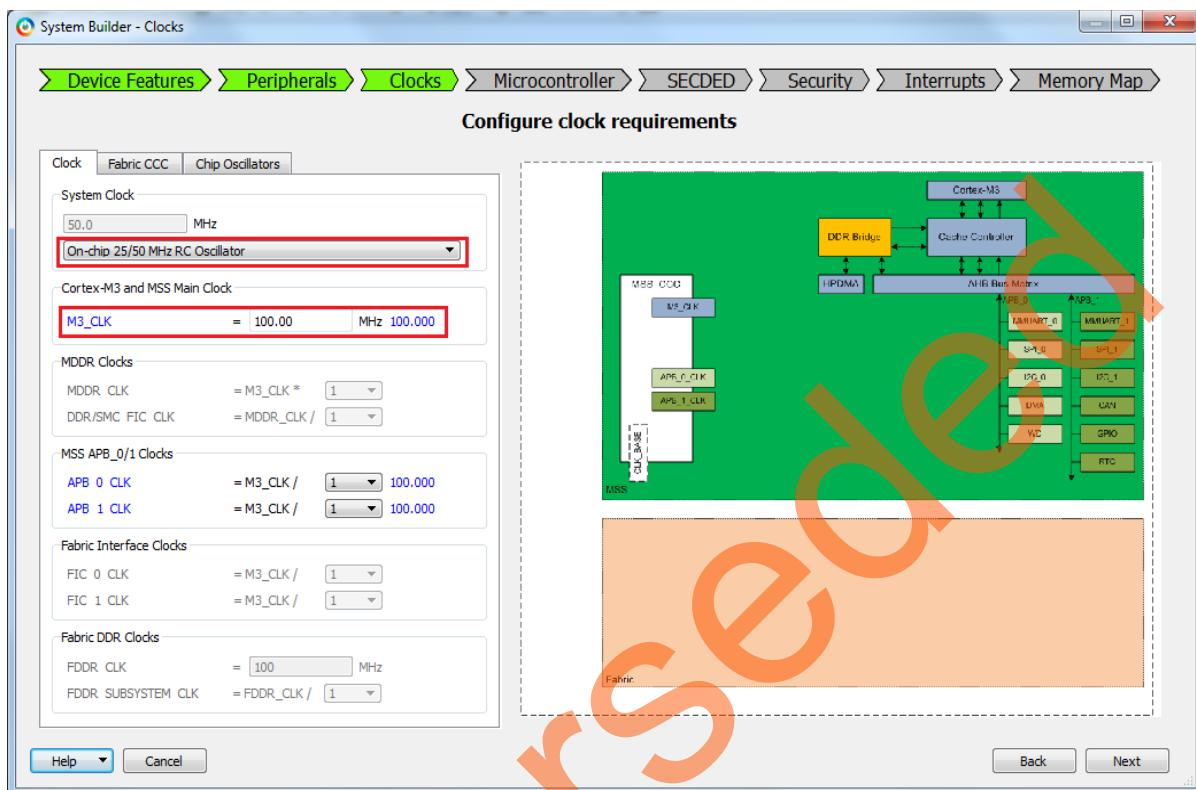

Figure 10 • System Builder – Clocks Page
13. Click **Next**. The **System Builder – Clocks** page is displayed, as shown in Figure 10. Select **System Clock source** as **On-chip 25/50 MHz RC Oscillator**. The M3_CLK is configured to 100 MHz by default.